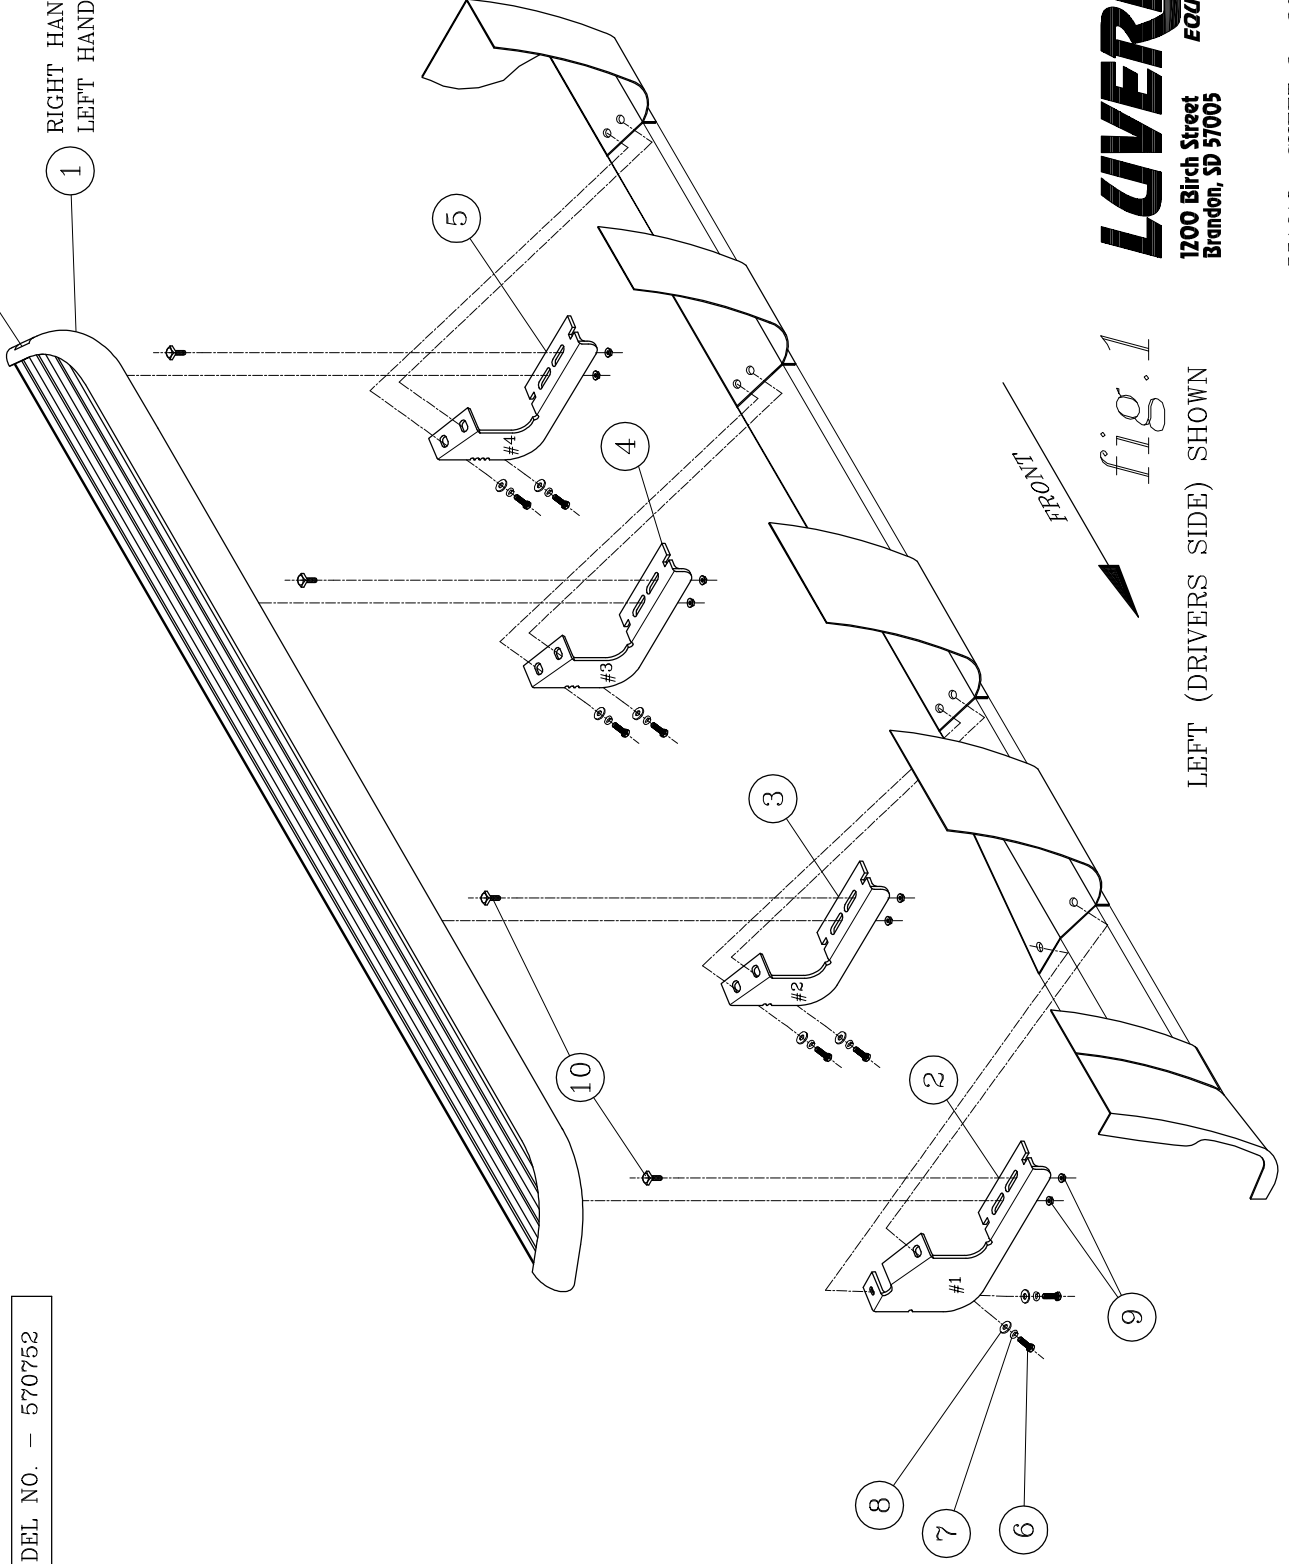

fig.1
3. BEFORE ATTACHING THE O-MEGA STEPS TO THE BRACKETS, PLACE THE STEP PADS (ITEM #2) ON TOP OF THE STEP PLATES. USE THE TABLE ON SHEET #2, AS A GUIDE TO POSITION THE STEP PAD FOR YOUR PARTICULAR VEHICLE. WHEN INSTALLING THE PADS ON THE STEPS, DRILL (5) 1/8" HOLE USING THE STEP PAD AS A GUIDE. ATTACH WITH (5) 8-18X1/2" TEK SCREWS (ITEM #6) PROVIDED. REPEAT FOR ALL STEP PADS.
5. INSTALL THE END CAPS (ITEM #3) AS SHOWN IN *fig. 1*, TIGHTENING THE NUTS TO 5 LB FT.
2. ATTACH THE MOUNTING BRACKETS TO THE VEHICLE USING EXISTING MOUNTING HOLES ON THE INTERIOR WALL OF THE ROCKER PANEL. (NOTE: THE BRACKETS MUST BE PLACE IN THE PROPER POSITION. THEY ARE IDENTIFIED WITH NOTCHES ON THE INBOARD EDGE. [1 NOTCH IS FOR #1 BRACKET, ETC.] #1 WILL BE AT THE FRONT OF THE VEHICLE. SEE FIG. 1).